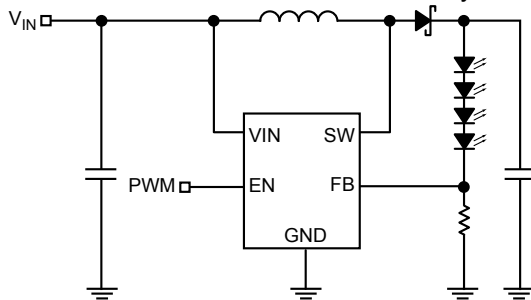

Figure 1. PWM Dimming Method
1. PWM dimming control is implemented by applying a PWM signal on EN pin as shown in Figure 1. The MIC2287C is turned on and off by the PWM signal. With this method, the LEDs operate with either zero or full current. The average LED current is increased proportionally to the duty-cycle of the PWM signal. This technique has high-efficiency because the IC and the LEDs consume no current during the off cycle of the PWM signal. Typical PWM frequency should be between 100Hz and 10kHz.